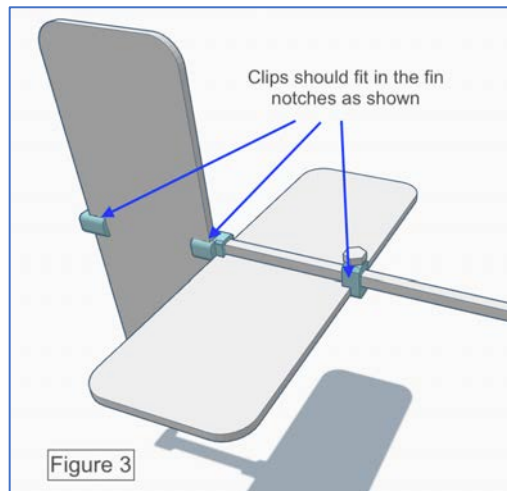

Figure 3: Attach Fin Clips - Pt. 2
6. Make sure the fin-clips fit snugly in the notches. (Figure 3)